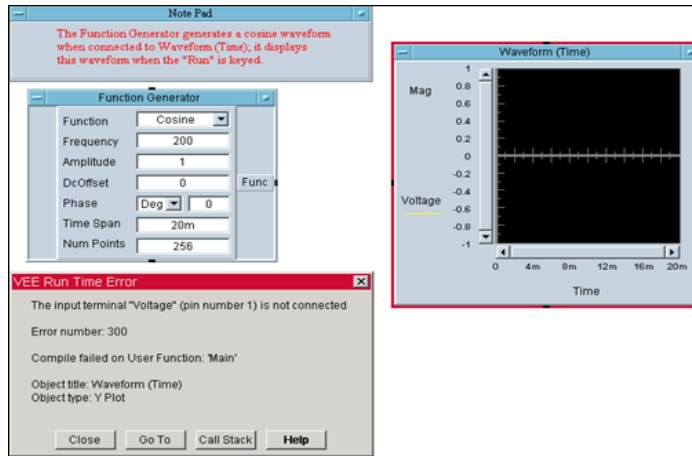

Figure 1-11 Run Time Error Displayed
- 1 Go to the Toolbar and click on the right-hand scissors icon. Cut the connection between the Function Generator and Waveform (Time). Attempt to run the program; a VEE Run Time Error box will appear. See Figure 1-11.